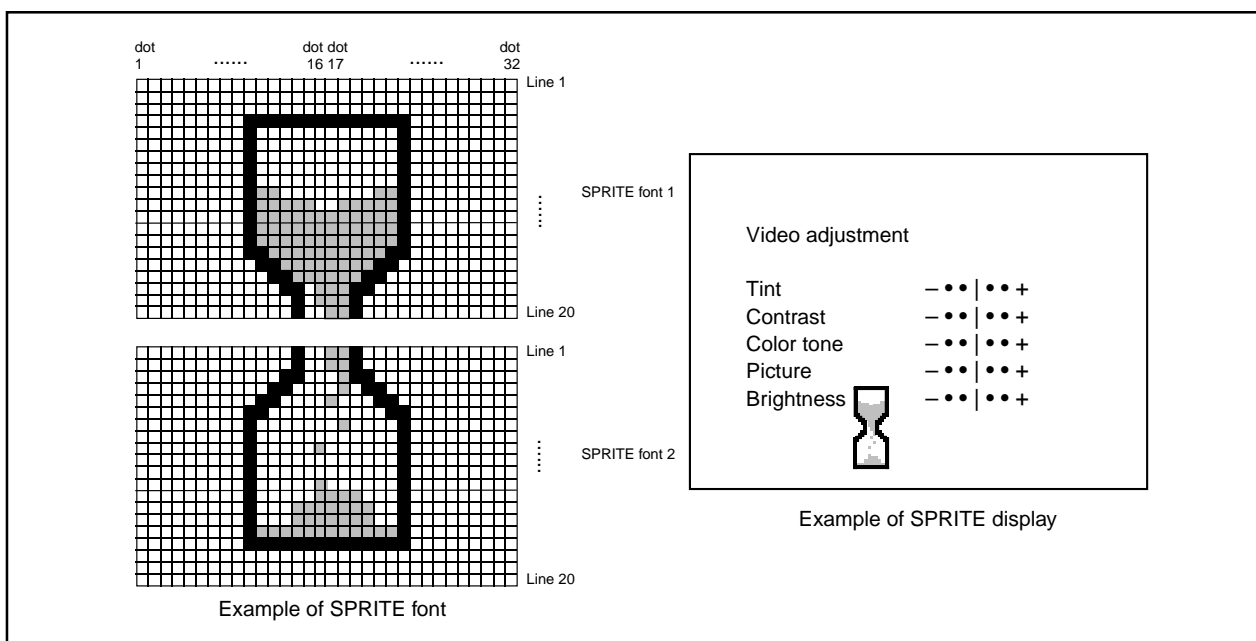

Figure 2.16.41 SPRITE OSD display example
Notes 1: An OSD1 interrupt does not occur at the end of display when the block is not displayed. In other words, if a block is set to off display by the display control bit of the block control register *i* (addresses 021016 to 021F16), an OSD1 interrupt request does not occur (refer to Figure 2.16.41 (A)).